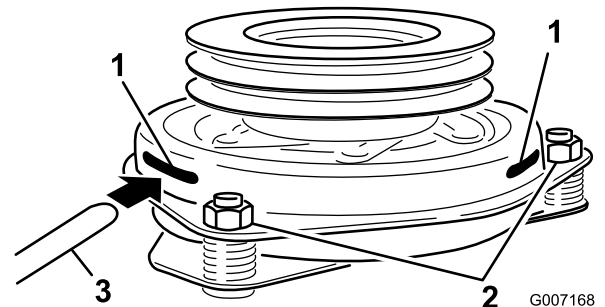

Figure 63
assembly. Make sure it is between the armature and the rotor friction surfaces (Figure 63).
10. Tighten the lock nuts until there is slight binding on the feeler gauge but it can be moved easily within the air gap (Figure 63).